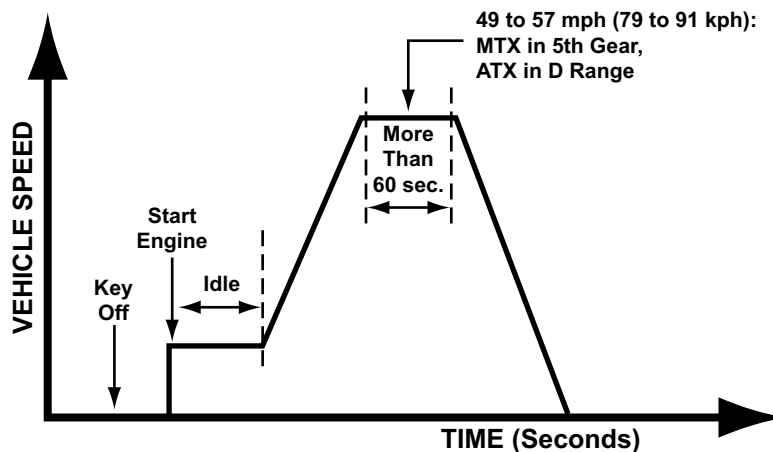

Figure MA000-27
3. Drive the vehicle as shown in Figure MA000-27.